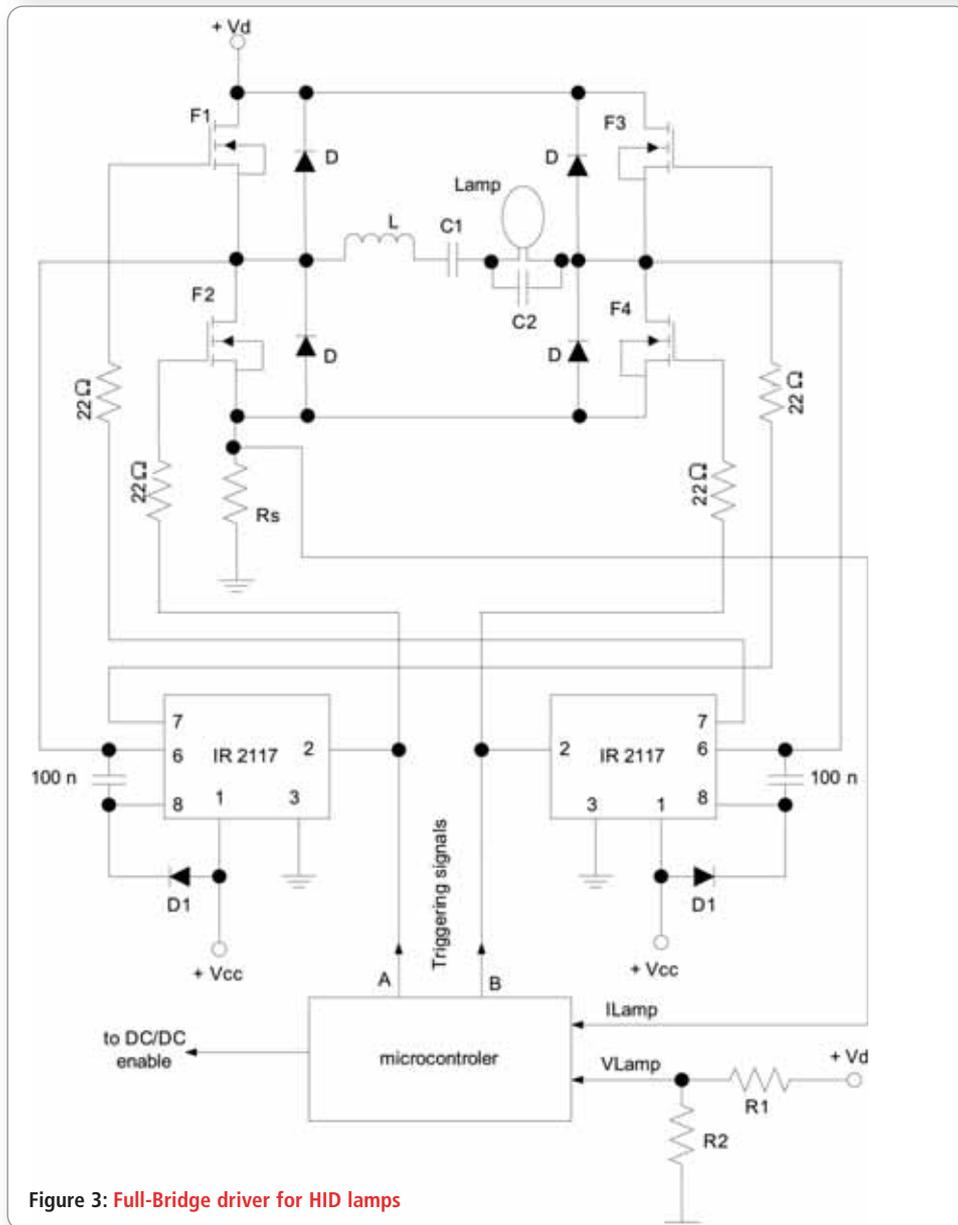

Figure 3: Full-Bridge driver for HID lamps
Figure 3 shows an FB inverter in an HID ballast with an ignition stage. FB needs four power Mosfets: two of them, F2 and F4, are of the low-side (LS) driver type, whereas the other two power Mosfets, F1 and F3, are high-side (HS) driver type. In order to drive the HS power Mosfets (F1 and F3), IR2117 HS drivers are used in this design.
In Figure 3 the high side power Mosfets are driven with high-side driver ICs, such as the IR2117. In this design the HID lamp works with a 400Hz square wave. Igniters for HID lamps are a very important stage and there are many valuable references available in literature covering them.